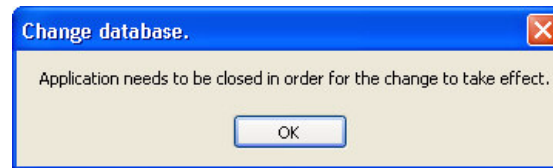

Figure 9-21 Change Database Dialog
4. Click **OK** to change the database file. A Change Database (Figure 9-21) dialog will be displayed.